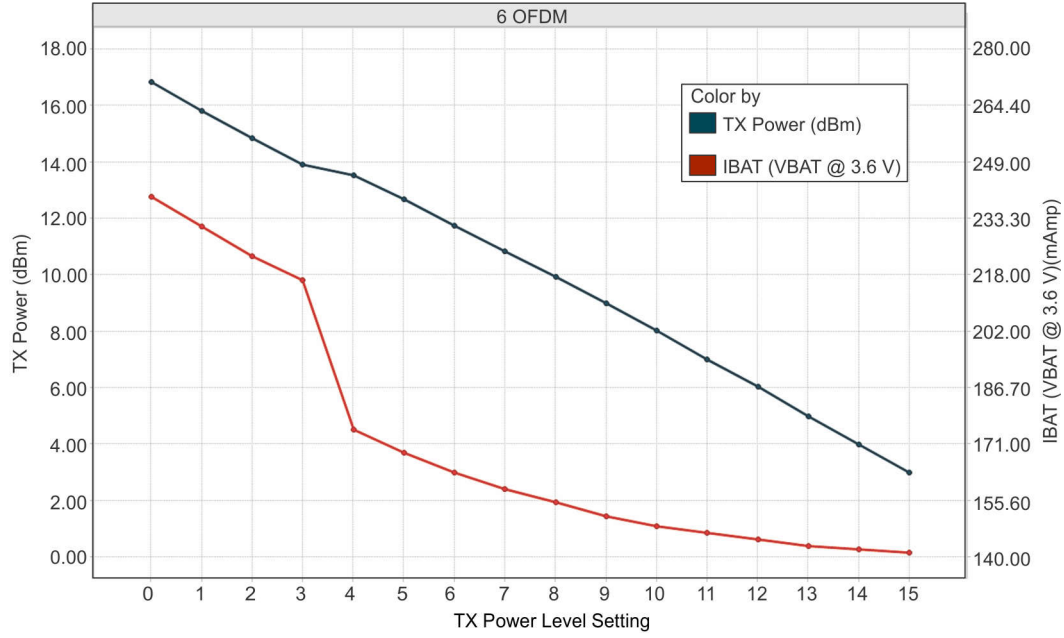
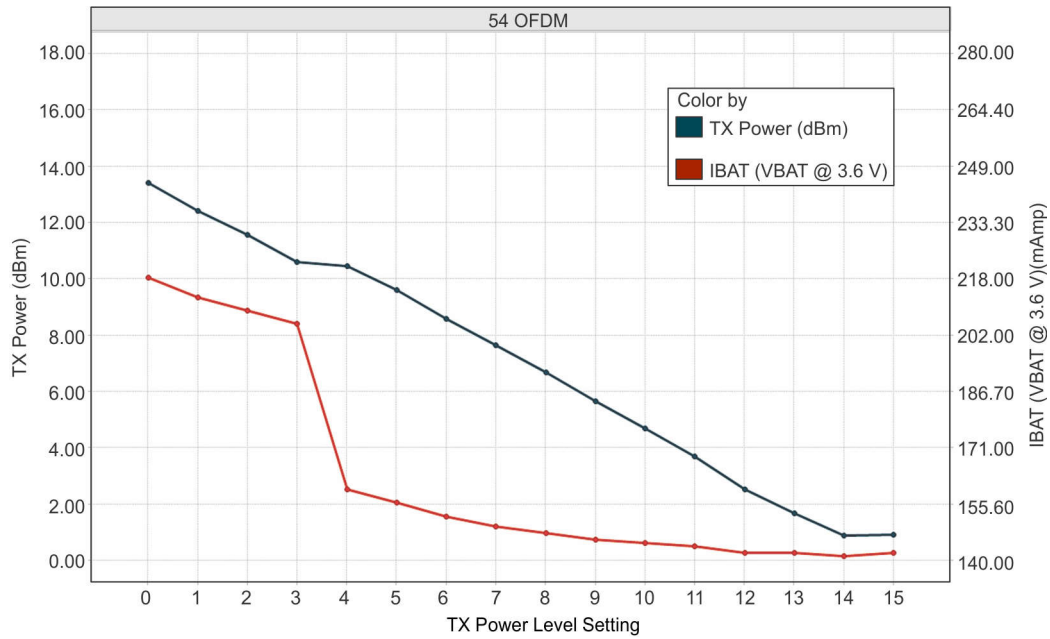

图 7-2. TX Power and IBAT vs TX Power Level Settings (6 OFDM)
图 7-3. TX Power and IBAT vs TX Power Level Settings (54 OFDM)
- (1) TX power level = 0 implies maximum power (see 图 7-1, 图 7-2, and 图 7-3). TX power level = 4 implies output power backed off approximately 4dB.
- (2) The CC3135MOD system is a constant power-source system. The active current numbers scale based on the VBAT voltage supplied.
- (3) The RX current is measured with a 1Mbps throughput rate.
- (4) DTIM = 1
- (5) The complete calibration can take up to 17mJ of energy from the battery over a time of 24ms. In default mode, calibration is performed sparingly, and typically occurs when reenabling the NWP and when the temperature has changed by more than 20°C. There are two additional calibration modes that may be used to reduced or completely eliminate the calibration event. For further details, see CC31XX CC32XX SimpleLink™ Wi-Fi® and IoT Network Processor Programmer's Guide.
- (5) The complete calibration can take up to 17mJ of energy from the battery over a time of 24ms. In default mode, calibration is performed sparingly, and typically occurs when reenabling the NWP and when the temperature has changed by more than 20°C. There are two additional calibration modes that may be used to reduced or completely eliminate the calibration event. For further details, see CC31XX, CC32XX SimpleLink™ Wi-Fi® and IoT Network Processor Programmer's Guide.